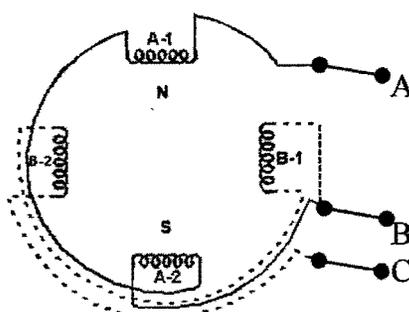

Figure A5
- b) Figure A5 represents the connections of a two-phase, three-wire alternator. How many voltage outputs are available from the two-phase three-wire alternator?